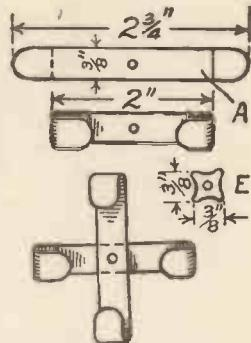

Fig. 4.—How to make the Armature.
**Armature and Spindle.**—The armature can be made next, and for this cut two strips of thick tinplate (A, Fig. 4) and round the ends with a file. In the